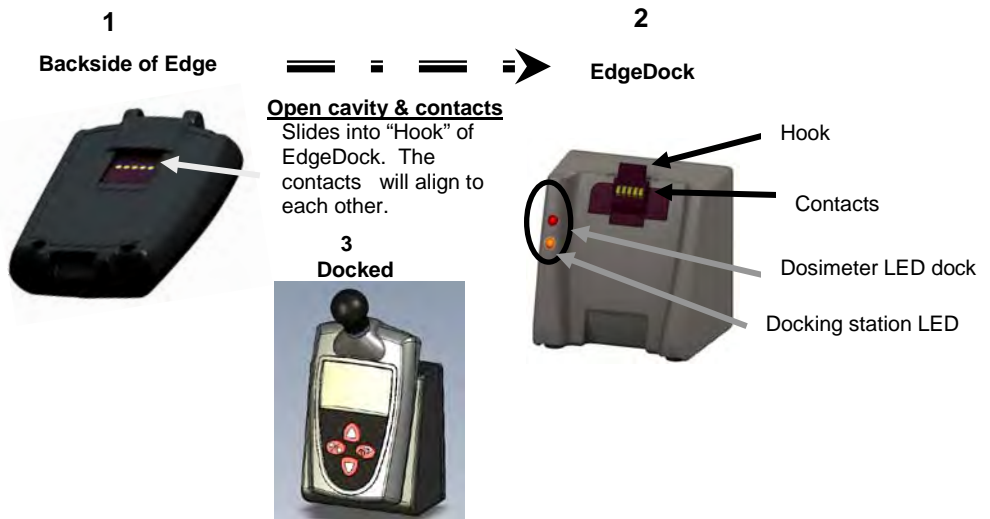

Figure 2-7: Docking the Edge on the EdgeDock
2. Slide the Edge (1) downward onto the **Hook** of the EdgeDock. (See Figure 2-7 below).